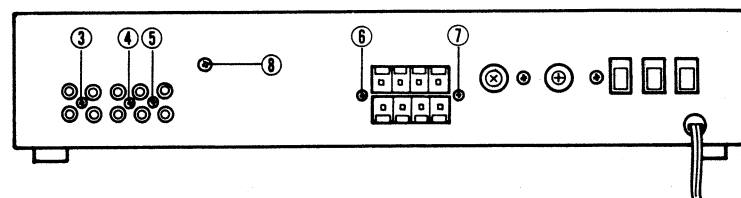

Fig. 3
3. Remove screws ③ ~ ⑧ on the rear panel shown in Fig. 3.